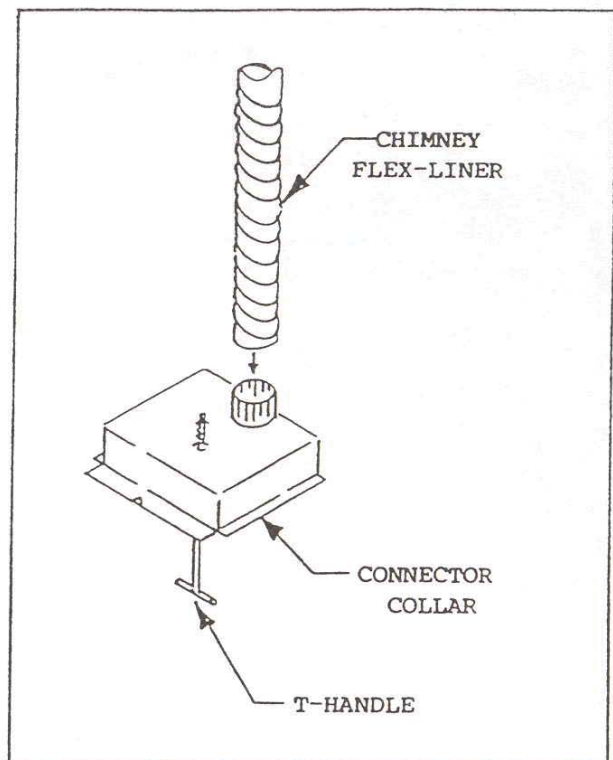

FIGURE 6
Slide the connector collar (removed from the unit) into the bottom of the previously installed chimney flex-liner and fasten the collar to the liner with a minimum of three (3) sheetmetal screws. See Figure 6.